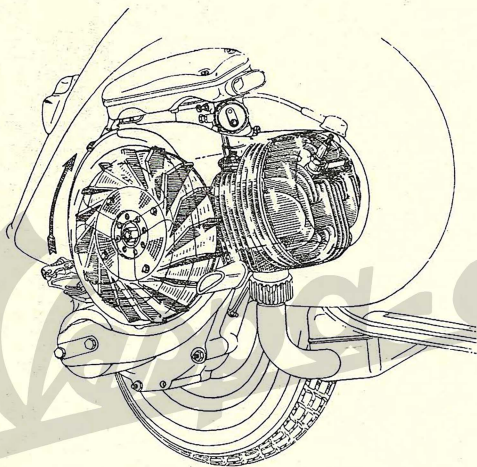

Fig. 9 – Cooling system
**Cooling** effected at all speeds by a centrifugal fan (see Fig. 9).